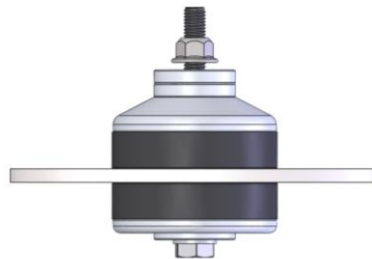

Figure 3: Two top spacer's removed- $\frac{1}{2}$ " lower
**To Lower the Engine:** In order to lower the engine height, remove the desired number of spacers from the engine mount isolator assemblies (see Figure 3). Each spacer is  $\frac{1}{4}$ " tall, so the engine can be lowered up to 1" in  $\frac{1}{4}$ " increments.